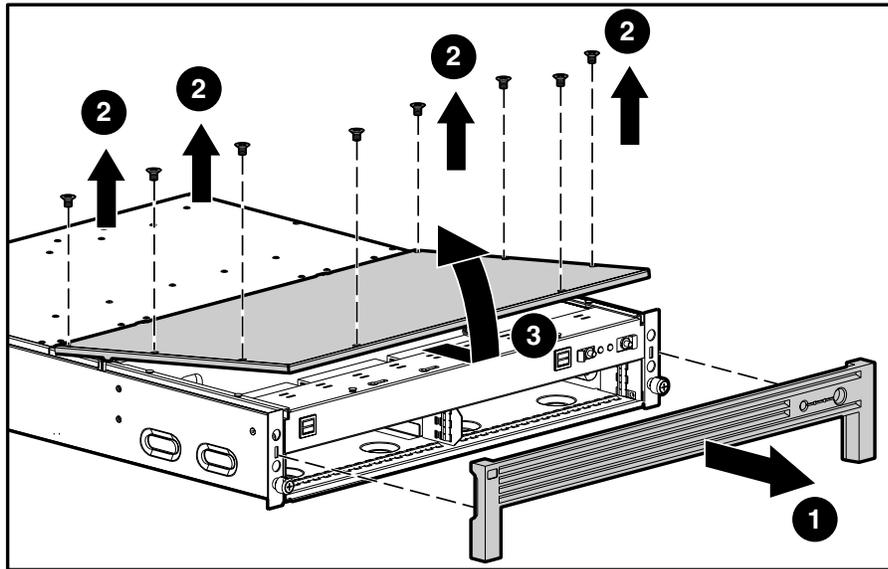

Figure 25: Removing the top cover
6. Remove the bezel ❶ as shown in Figure 25.
7. Remove the eight screws securing the top cover to the chassis ❷.
8. Lift the front of the top cover and remove it from the chassis ❸, as shown in Figure 25.